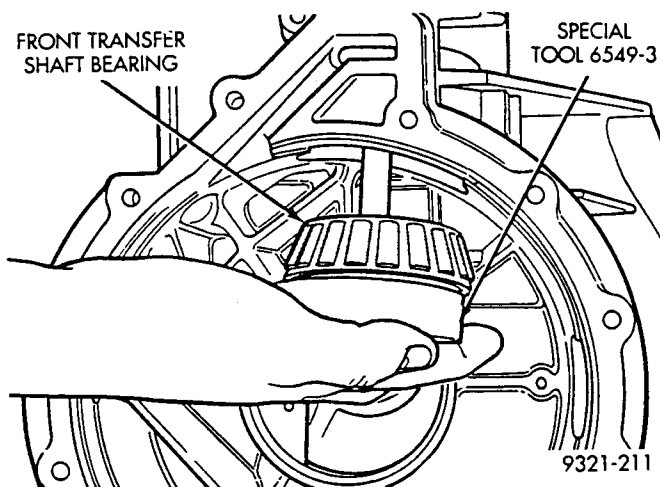

Fig. 4 Installing Gauge Disc with Front Transfer Shaft Bearing
(4) Install gauge disc and bearing into case using gauge disc rod (Fig. 4).